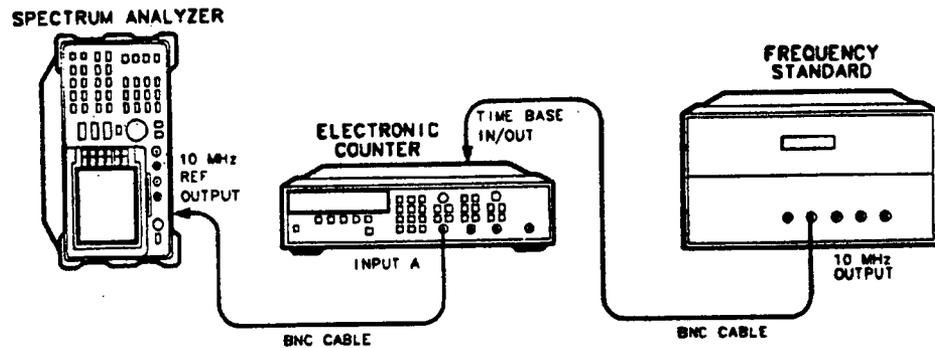

Figure 2-8. Precision Frequency Reference Setup
1. Place the spectrum analyzer on its side as shown in Figure 2-8 and set the LINE switch of the spectrum analyzer to ON.
3. Connect the frequency standard to the frequency counter rear-panel TIMEBASE IN/OUT connector. Refer to Figure 2-8.